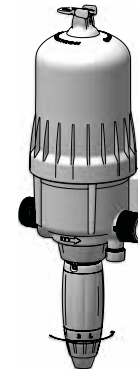

Fig. 16
- Screw or unscrew the dosing adjustment sleeve so that the 2 display eyelet dots are facing the desired dosing marker (Fig. 16).